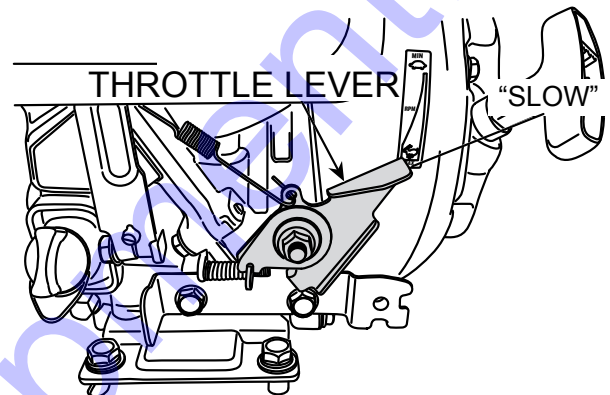

Figure 13. Throttle Lever (Slow)
4. Place the throttle lever (Figure 13) in the **SLOW** position (idle).
- Place the throttle lever (Figure 13) in slow position, and listen for the engine speed to decrease.